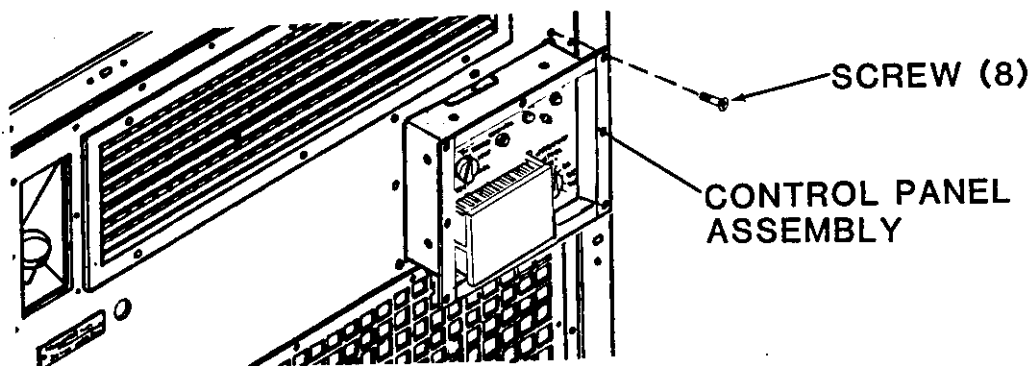

Figure 5-8. Control Panel Removal (Step 1)
- b. Remove eight screws from front flange of control box. (See figure 5-8.)